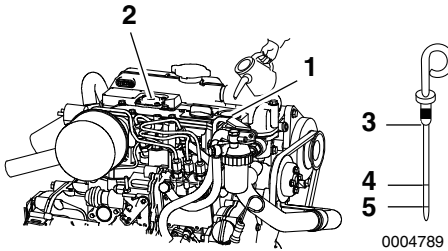

Figure 6
2. Remove the dipstick(**Figure 6, (3)**) and wipe with a clean cloth.
4. Remove the dipstick. The oil level should be between upper (**Figure 6, (4)**) and lower (**Figure 6, (5)**) lines on the dipstick.
1. Remove the yellow oil filler port cap from the filler port (**Figure 6, (1)**) on the rocker arm cover (**Figure 6, (1)**) and fill with engine oil.
2. Fill with engine oil to the upper limit (**Figure 6, (4)**) on the dipstick (**Figure 6, (3)**).